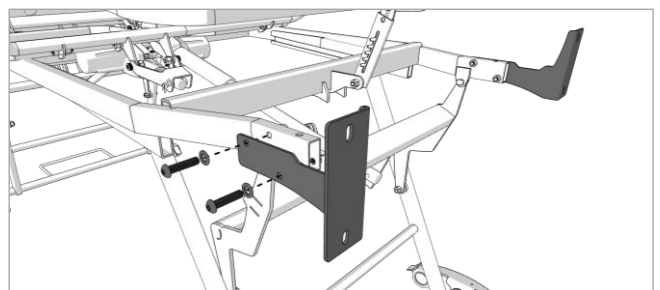
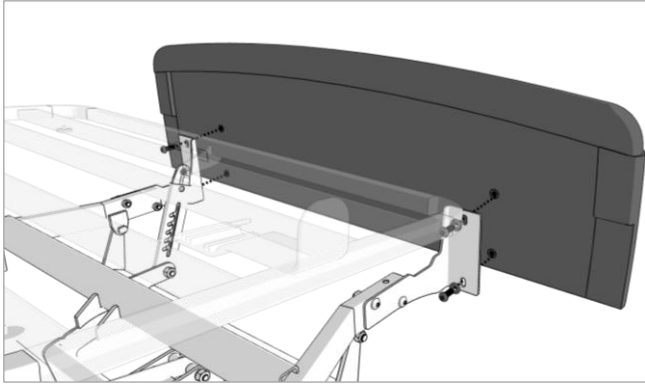

Figure 8.9
Figure 8.10 – Footboard Shown is Scandi, fitment may vary slightly depending on specification.
7. Repeat steps 5 to 7 to fit the footboard as shown in Figure 8.9 and Figure 8.10